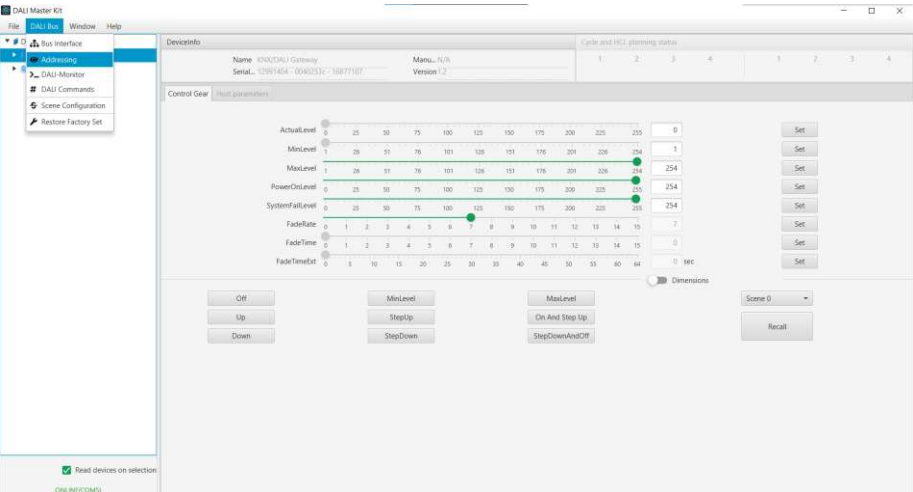

Figure 2
2.2. Click on “DALI Bus” to drop down the menu, then click to choose “Addressing” as shown in Figure 2.